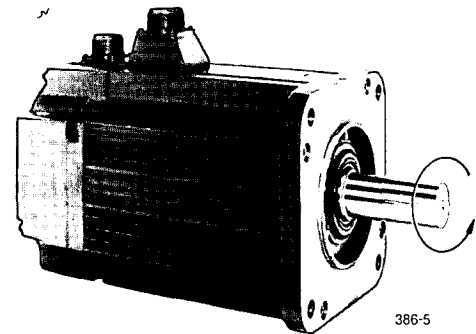

Fig. 9.1 Motor Forward Running
- When the reference voltage is positive, the motor rotates forward (counterclockwise viewed from drive end—output shaft) (Fig. 9.1).